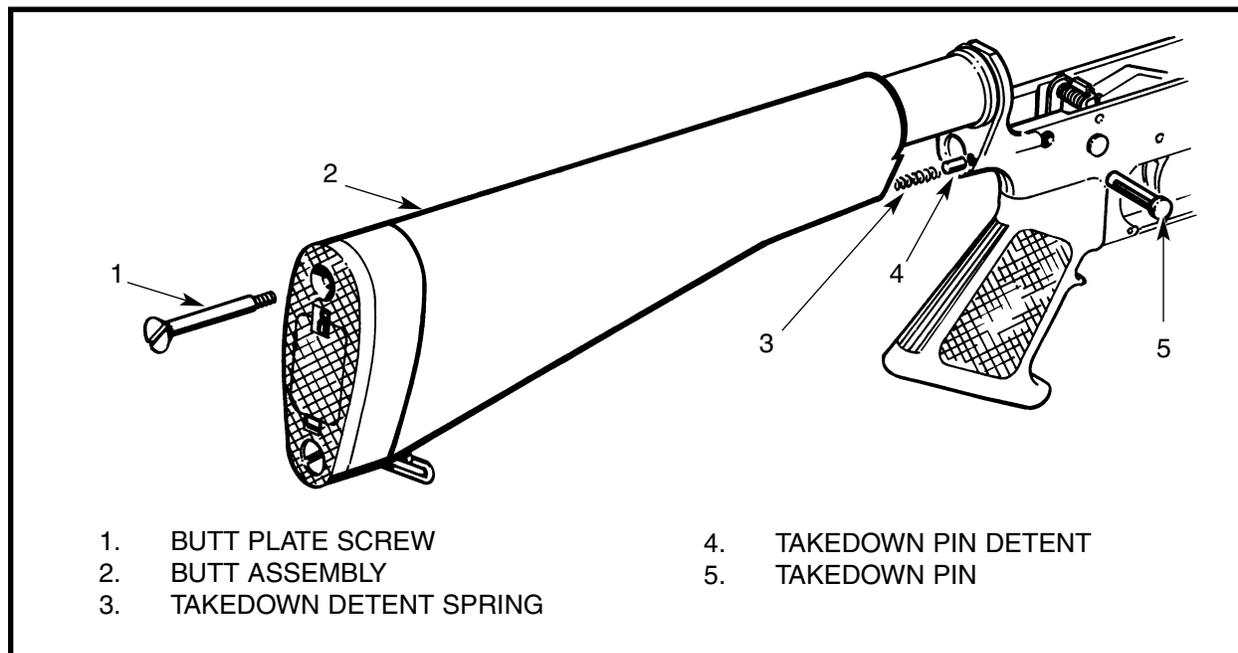

Figure 3-2-37 Removing the Butt Assembly
37. **SOLID BUTTSTOCK.** To remove the butt assembly, see Figure 3-2-37 and proceed as follows:
- a. Unscrew the butt plate screw (1);